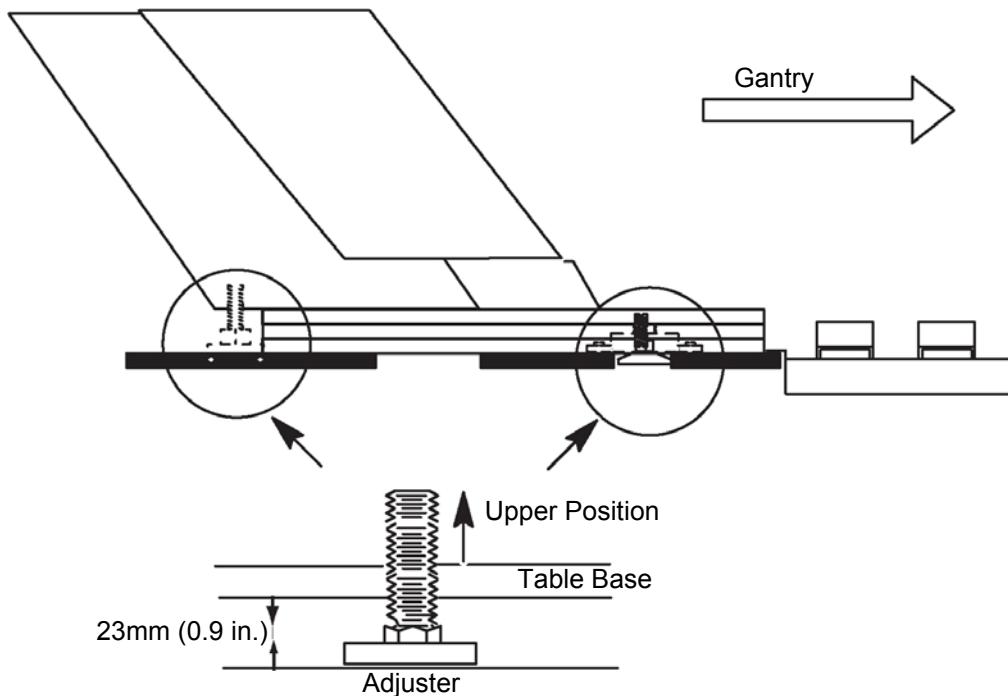

Figure 1-40 Setting the Adjusters
- 4.) Preset leveling pad heights to 20mm, see Figure 1-40.